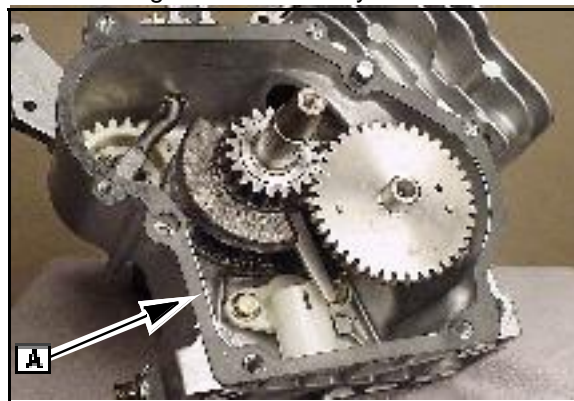

Fig. 33
1. Place the gasket ([A] Fig. 33) on the mating surface of the cylinder.